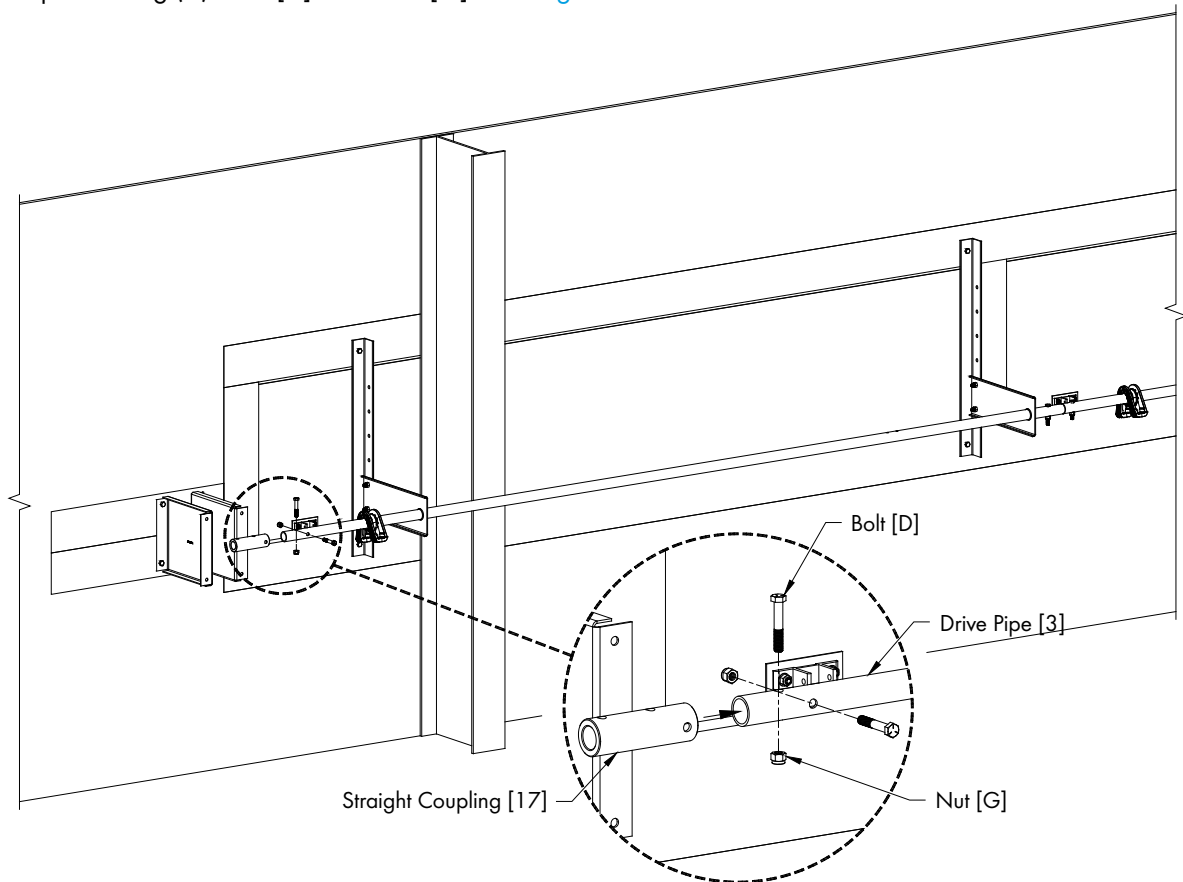

Figure 40
Slide the Straight Coupling [17] over the end of the pipe near the Actuator Mounting Brackets and secure in place using (2) Bolts [D] and Nuts [G]. See Figure 40.